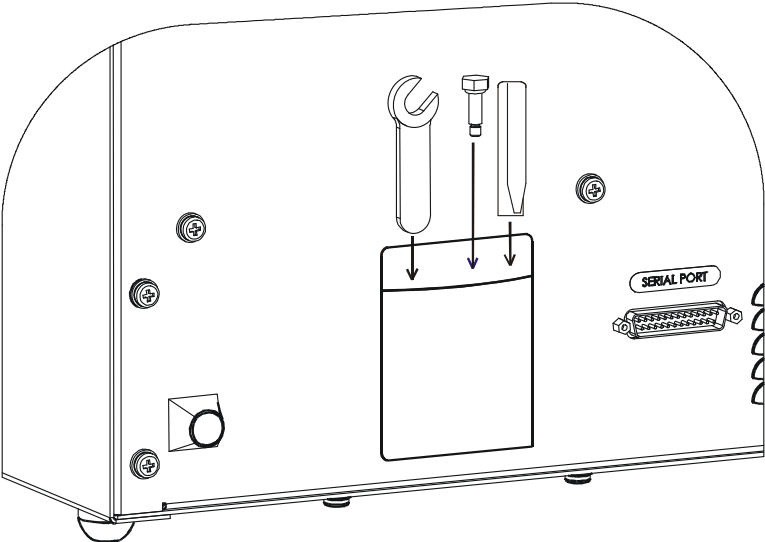

Figure 3: Storage pocket on the rear of the instrument (wrench, carrier shipping screw, and warning tag shown)
4. Locate the supplied plastic tool storage pocket. Place the screws and washers inside the bag. Use the supplied Velcro strips to attach the pocket to the back of the reader for storage. Do not block any air vents. See *Figure 3* on the next page.